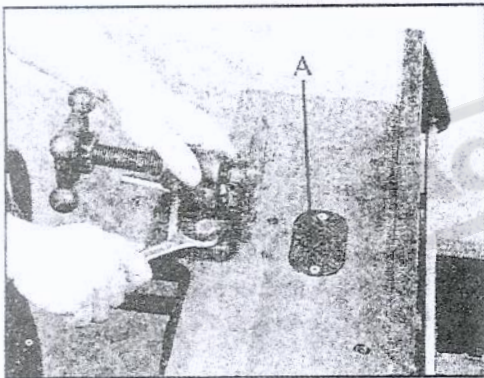

Fig. 4
The table insert must be removed before making penetratively cutting Fig. 4, (A).
Unscrew two bolts to remove the clamping unit to appropriate position then screw up this clamping unit tightly as shown in Fig. 4.